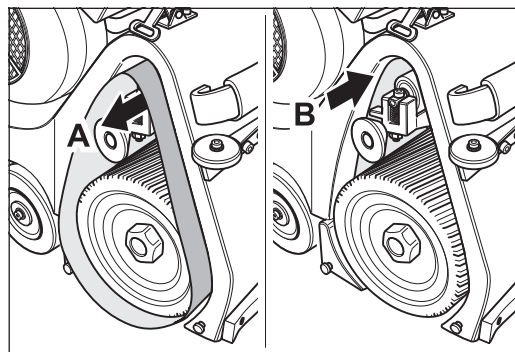
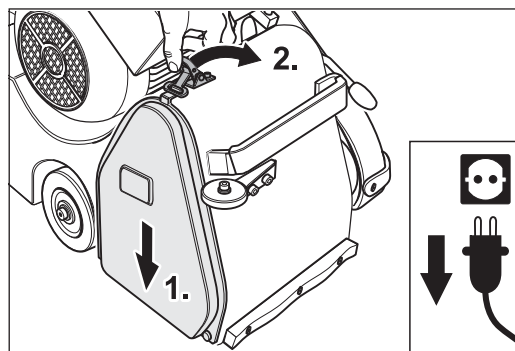

Fig. 70 If the sanding belt runs in direction of **A** or **B**, the setting of the sanding belt regulation is necessary.
Fig. 71 Mount the side cover.
- 5 If the sanding belt runs to the front (towards **A** in Fig. 70) or to the back (towards **B** in Fig. 70) the setting of the sanding belt regulation is necessary (→ *Section 7.3.2, Setting the sanding belt tracking*). If the sanding belt tracking is alright, mount the side cover (Fig. 71).
If the sanding belt is running out of true (in direction of **A** or **B** in Fig. 70), it must be turned around and another test performed.
If the sanding belt runs to the front (in direction of **A** in Fig. 70) and after turning over runs to the back (in direction of **B** in Fig. 70) or vice versa, the sanding belt is of poor quality and is not usable (conical sleeve)!
- 9 After successful setting of the sanding belt tracking mount the side cover (Fig. 71).